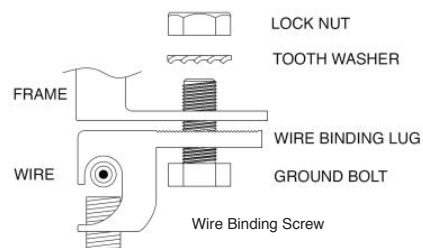

Figure 2 (IlSCO, GBL-4DBT)
(1) Grounding Using Existing Ground Hole (Figure 2, GBL-4DBT)